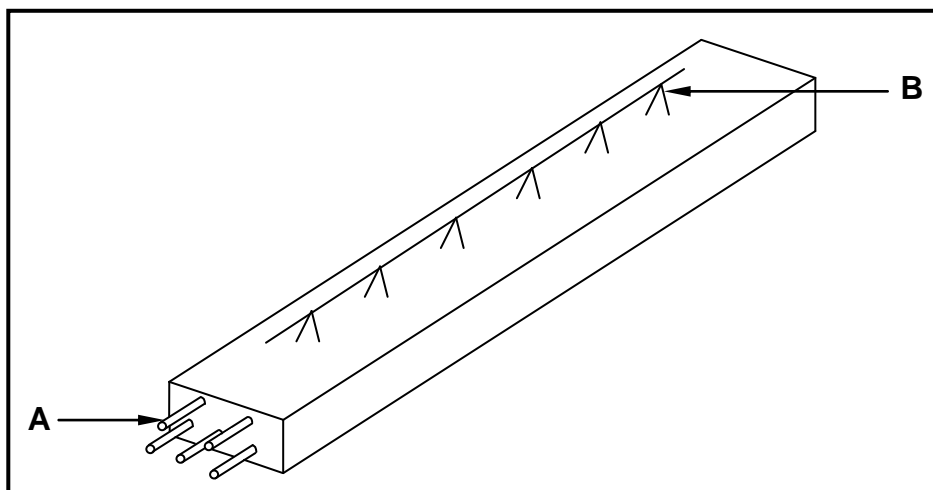

FIGURE 2.5
- 2.5 FIGURE 2.5 below shows a component used in the building industry.
- 2.5.1 Name the building component shown in FIGURE 2.5. (1)
- 2.5.5 Concrete will be cast on top of the component in FIGURE 2.5. Name ONE method of curing concrete. (1)